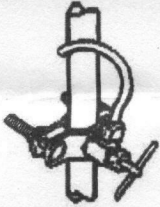

Figure 1
3. Shut off water supply. The valve to shut off the water supply may be behind the refrigerator or may be a saddle valve where the icemaker line was added to an existing water supply. Typically the valve will turn off by turning the handle clockwise. (See Figure 1)